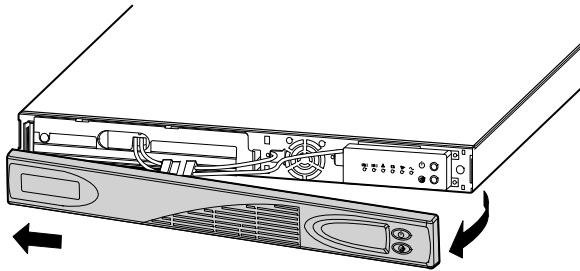

Figure 2. Removing the UPS Front Cover
2. Pull the right side of the UPS front cover to release the snaps at the right and middle of the cover (see Figure 2). Remove the UPS front cover from the left side.